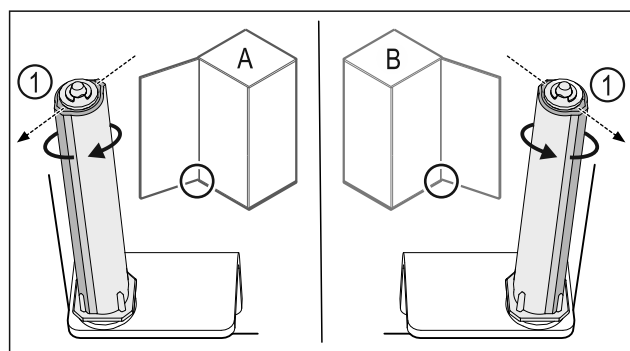

Fig. 33 Left-hinged (A) / Right-hinged (B)
- Turn the closing system against the resistance until the bar of the closing system Fig. 33 (1) points outwards.